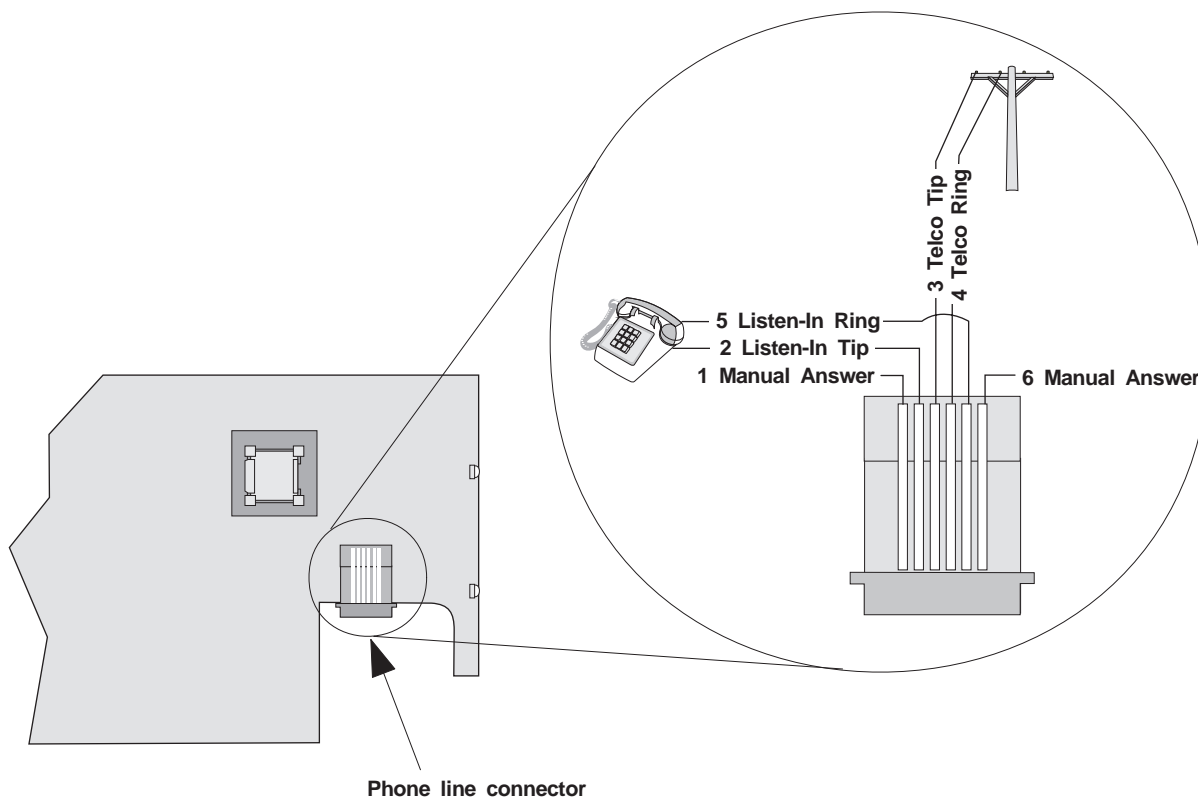

Figure 4-22 Phone Connector Pin-Out and Listen-in Wiring Diagram
3. Pick up the telephone the listen-in call is on. See Figure 4-22 for a diagram of how the listen-in phone should be connected (in parallel) with the phone line of the line card.